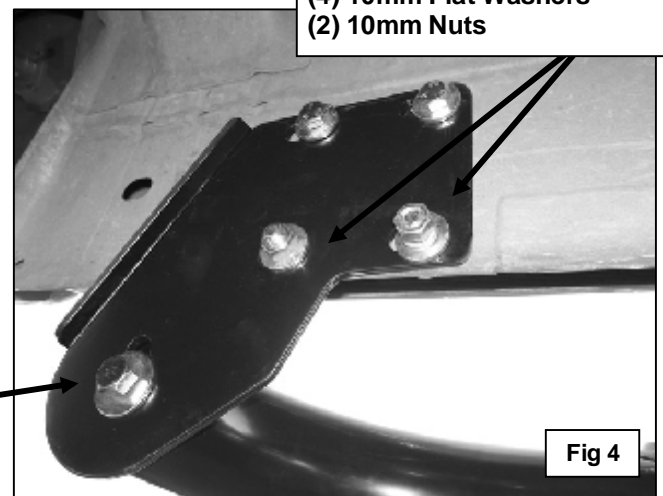

Fig 4
- With assistance, carefully place the Sidebar into position and attach it to the Mounting Brackets using the included (2) 1/2" x 2" Hex Bolts, (2) 1/2" Lock Washers and (2) 1/2" Flat Washers, **(Figure 4)**. **NOTE:** If properly installed, the Side Bar mounting slot on the Mounting Brackets will be vertical, **(Figure 2 & 4)**.